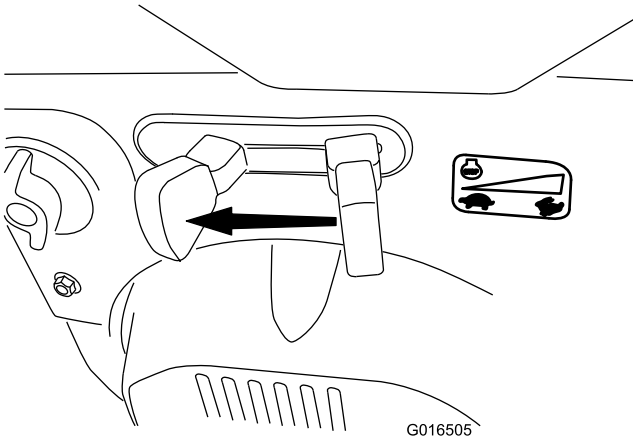

Figure 26
1. Move the throttle to the SLOW position, and then to the STOP position (Figure 26) to kill the engine. The